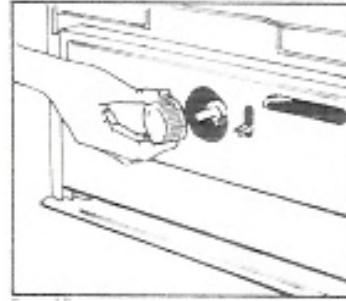

Fig. 15
- (1) Pull out the wick adjusting knob. (Fig. 15)